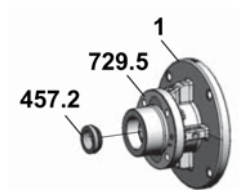

Fig 8
6. Press the stationary seal ring **457.2** together with the mounted O-ring out of the flange cover **1**, see Fig. 8.